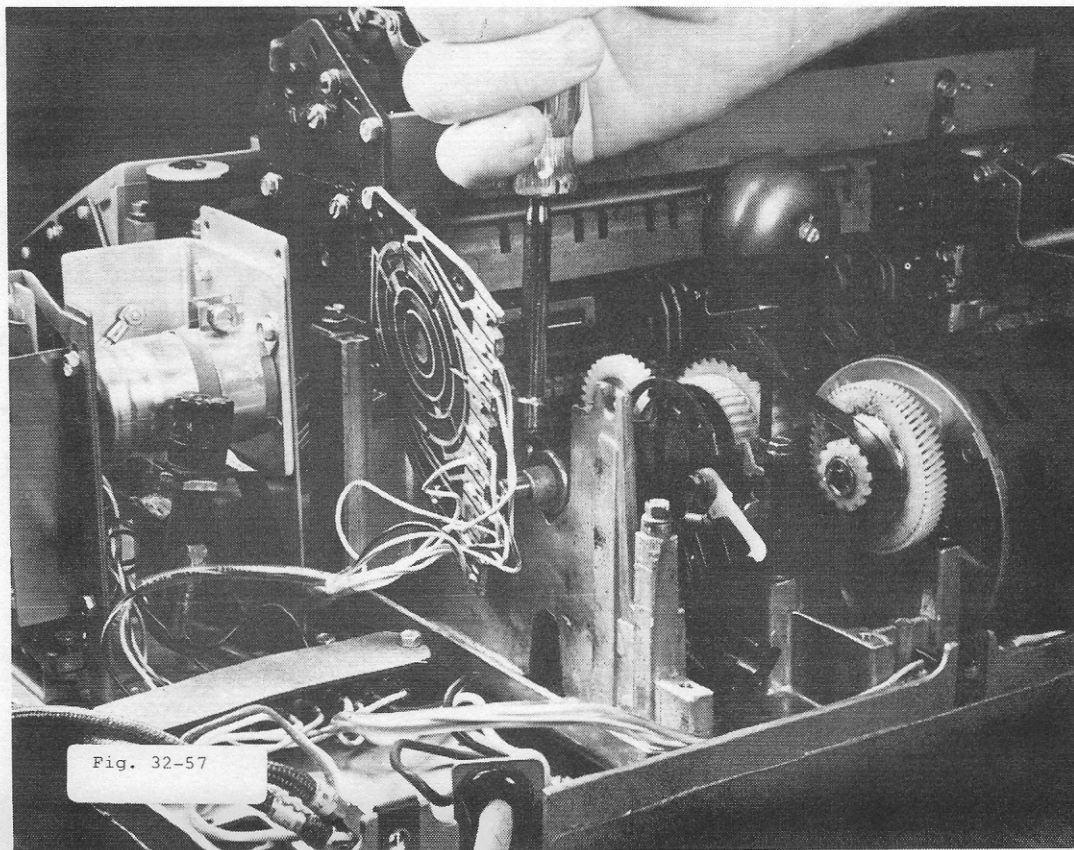

Fig. 32-57
6. Remove the bearing clamp according to Fig. 32-57.